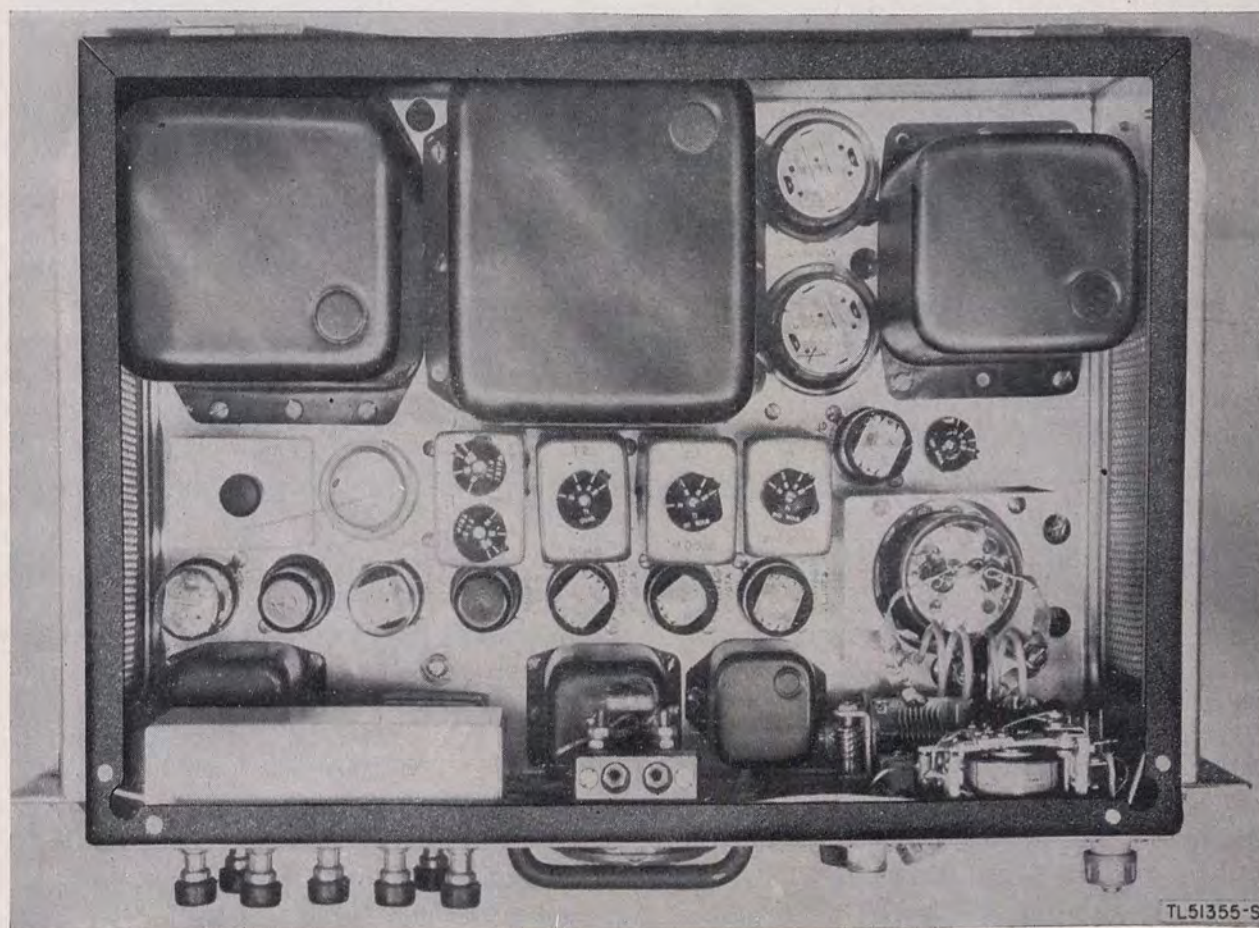

Figure 13. Top of chassis, Radio Transmitters T-14A/, T-14B/, and T-14C/.
b. Transmitter T-14A/ uses high-vacuum rectifier Tubes JAN-5R4GY (V10 and V11) (fig. 13) in place of the mercury vapor tubes V10 and V11 used in the unlettered model.
To remove crystal, pull cover off crystal oven (fig. 13) by grasping handle. Pull crystal out of socket by rocking gently.